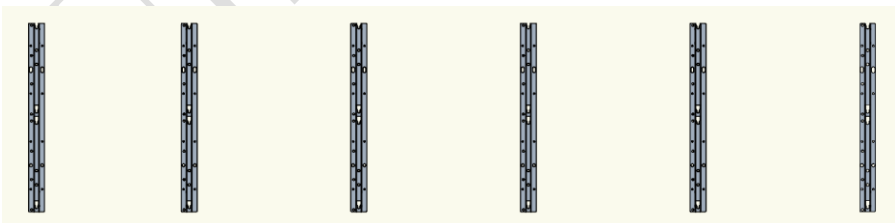

Figure 2-19 The installation of the back strip is complete
- 4) The left and right cabinets are fixed with M6 plug bolts, as shown in Fig. 2-19; the mounting plate and cabinet are fixed on the square pipe with hexagon socket bolts;